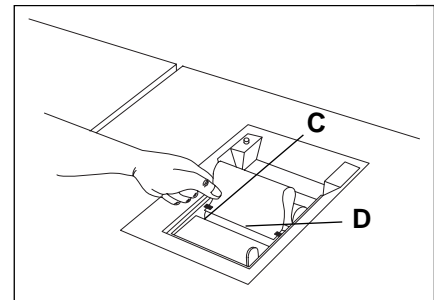

Figure 9.39
5. Feed paper under guides (C), if present, and into slot (D) (Figure 9.39).